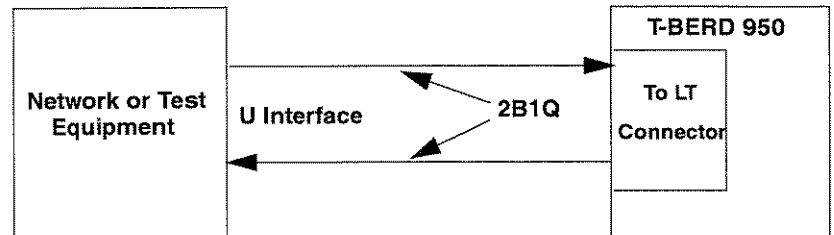

Figure BRI-4. NT1/TE in Terminate Mode
The NT1/TE mode allows the unit to emulate a Network Termination (NT1) and Terminal Equipment (TE) simultaneously. This mode is used to place calls at the U interface. The ISDN BRI Option emulates Terminal Equipment (TE) at the U interface and is available with the ISDN test type. In the NT1/TE mode, you can manually loopback the U interface. Figure BRI-4 shows ISDN calls placed and received using the D-channel for either B-channel.